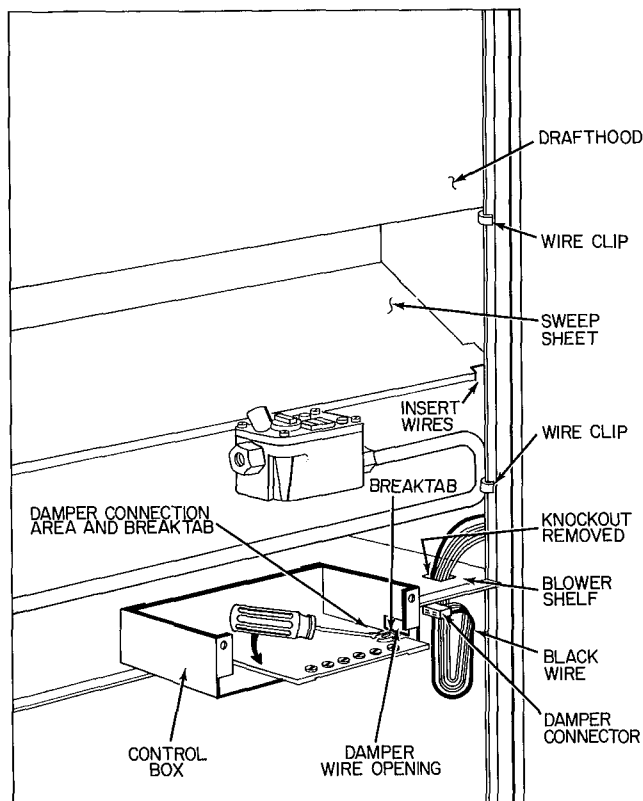

Fig. 9 – Breaktab and Damper Connection Area
Step 2 – Connect Wires (Refer to Fig. 9.)